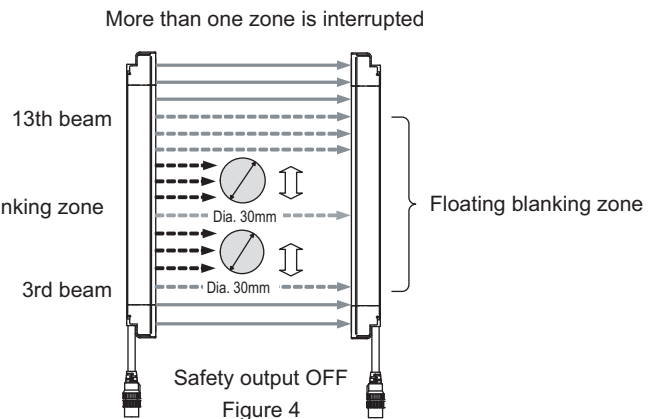

Figure 4
You cannot overlap fixed blanking zones. (Figure 4)
Safety output can be turned OFF when more than one zone is interrupted by object(s) that should not turn the safety output OFF. (Figure 4)
- All beams are configured as a warning zone (figure 4).